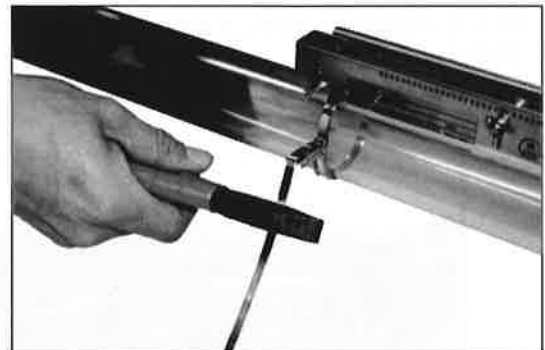

Fig. 3-5
- (5) When the stainless steel belt is long, cut it as shown in Fig. 3-5.